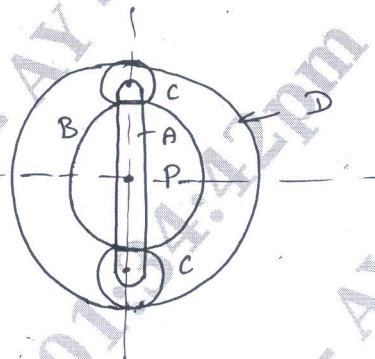

Fig Q8(b)
- b. The Fig Q8(b) shows an epicyclic gear train where the arm 'A' is the driver and the annular gear D. is the follower. The wheel D has $\frac{1}{2}$ teeth and B has 48 teeth. B runs freely on P and D is separately driven. The arm 'A' runs at 100 rpm and wheel D at 50 rpm in same direction. Find the torque on B is A receives 7.5 kW.